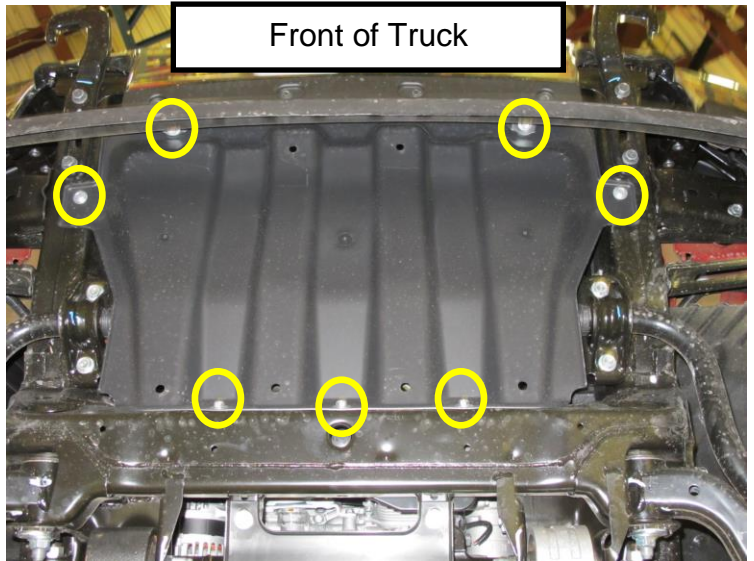

Figure 3
- Remove the (7) front under cover bolts (Figure 3).